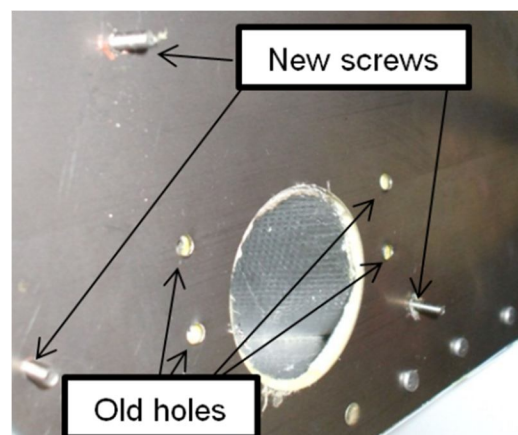

Figure 1
5. Using the Template 1, layout and drill three #28 mounting holes in the firewall for the new cabin heat box. See Figure 1.